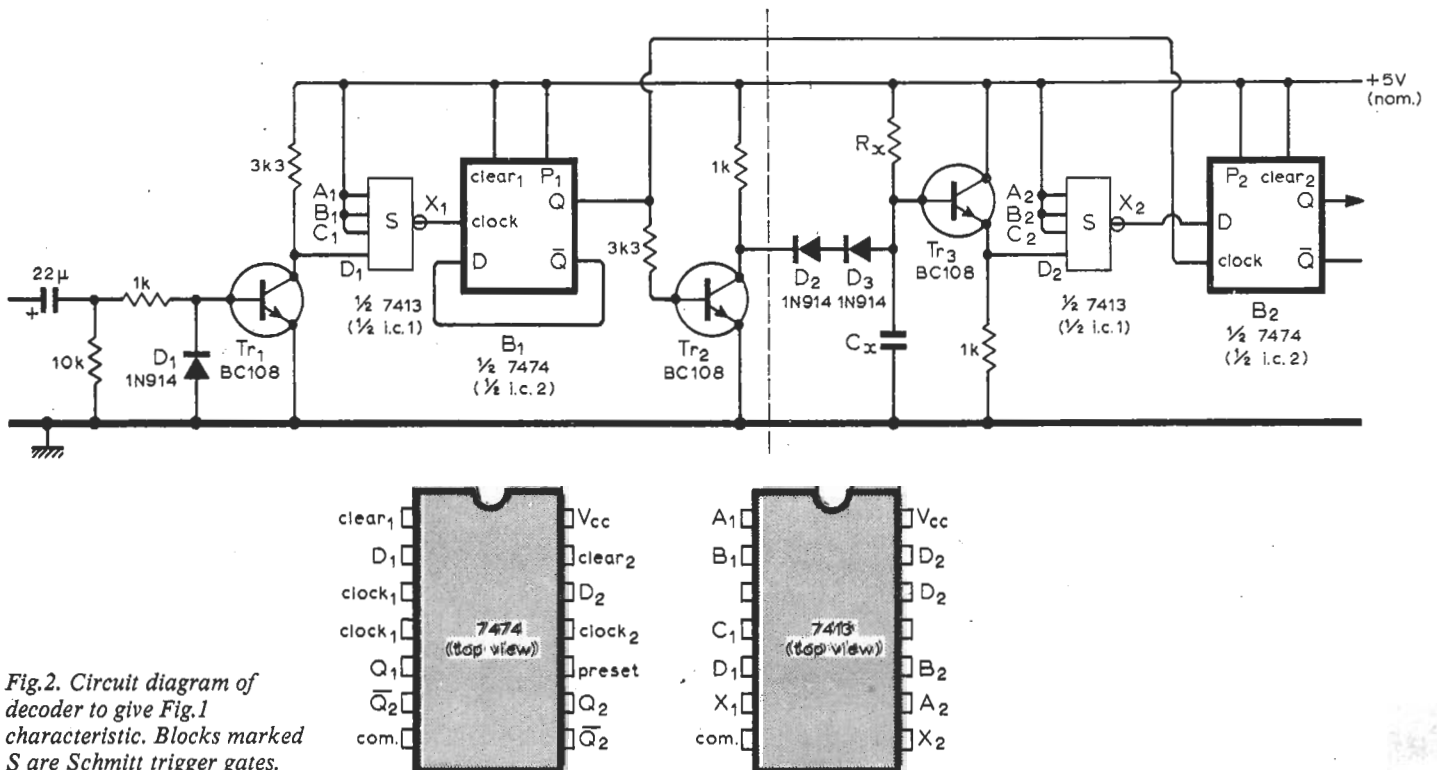

Fig.2. Circuit diagram of decoder to give Fig.1 characteristic. Blocks marked S are Schmitt trigger gates.
The output of each stage is gated by a diode to an RC differentiator, and a small spike at the input to the squaring block occurs at the trailing edge of the stage's output pulse. This spike is also coupled to the next stage for triggering. Stage two stays on for its commanded period ( $t_2$  in Fig. 2). Stages three through five follow in like manner. Then 3 to 8 milliseconds are permitted to elapse to allow the decoder to reset. The clock, having completed its 15-millisecond period, changes state to restart the cycle.
Fig. 2. Waveforms show timing and synchronization of digital signals. Those at (A) are for one frame of encoder; (B) is for decoder; and (C) shows control variations.
Fig.2 shows the circuit of the basic element.  $R_x$  and  $C_x$  determine the critical frequency ( $150k\Omega$  and  $0.015\mu F$  give a critical frequency of 900Hz). If, during one cycle of the input,  $C_x$  charges enough for the output voltage of the buffer emitter follower to exceed the upper trigger voltage of the Schmitt,  $S$ , then the output of the Schmitt goes to logic "0". If one input period is not long enough for this to occur, then the Schmitt output remains at logic "1". At the output of the Schmitt, therefore, there is a pulse waveform when the input frequency is below the critical value, and a logic "1" when it is above the critical value as shown in Fig.3. To give a continuous logic "0" below the critical frequency and logic "1" above it, the D-type edge-triggered flip-flop  $B_2$  is used, its D input being connected to the output of  $S$ . The flip-flop is clocked by a positive-going edge which occurs at the end of the time during which  $C_x$  is charging. The Q output assumes the state
Fig. 3. Waveforms produced at output of Fig. 3 when input frequency is less than (a) and greater than (b) the critical frequency. The output of  $ST_2$  is marked  $X_2$  in Fig. 2.
To obtain  $n$  non-overlapping band-pass characteristics, we need  $n-1$  basic elements with different critical frequencies. (The components to the left of the broken line in Fig. 2 may be common to all the basic elements.) Fig. 4 shows the characteristics of four basic elements with different critical frequencies, the five distinct bands with these critical frequencies as their edges, and the logic equations for these bands. Fig. 5 shows these expressions implemented with NAND logic.